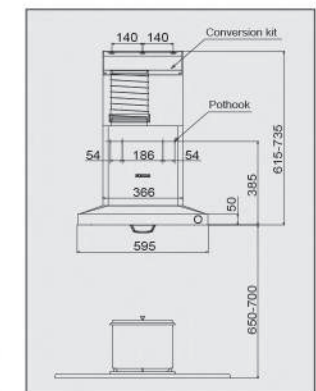

Fig.15
2. Accurately locate the position on a solid wall where drilling shall be carried out via the chopping bit (Refer to Figure 15). Drill the wall and embed the expansion pipe in a secure way, fix the pothook and the components for the wind guide box and screw in the wood screw tightly. The components for the wind guide box can be strengthened and fixed onto the suspended ceiling with two ST3.9x9.5 self-tapping screws;
6. Install the air duct according to Figure 15. Fix the air duct onto the components of the wind guide box with two ST3.9x9.5 self-tapping screws. Inspect the tube wall which shall not be bulged or flat;